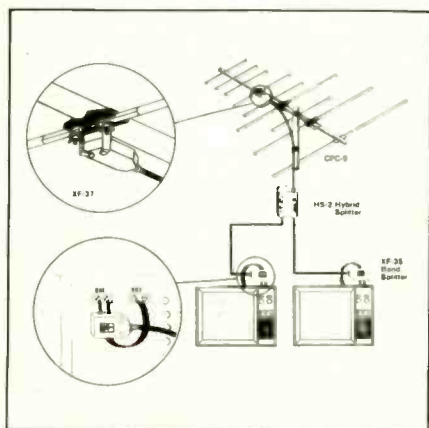

Fig. 1—82-channel, 2-set system
■ The simplest system (Fig. 1) would consist of an all-channel antenna (Channel 2 through 83, plus FM) mounted with a rotor on a push-up mast or tripod. An 82-channel matching transformer, mounted on the antenna terminals, enables the installer to use RG-59/U or RC-11/U coaxial cable down to a two-way hybrid splitter. At the back of the TV sets, 75Ω UHF/VHF bandsplitters may be used to match the impedance of the coaxial cable into a 300Ω splitter network to the terminals on the back of the set. Following the instructions supplied with the various equipment, makes the installation so simple that even a do-it-yourselfer could install this system.